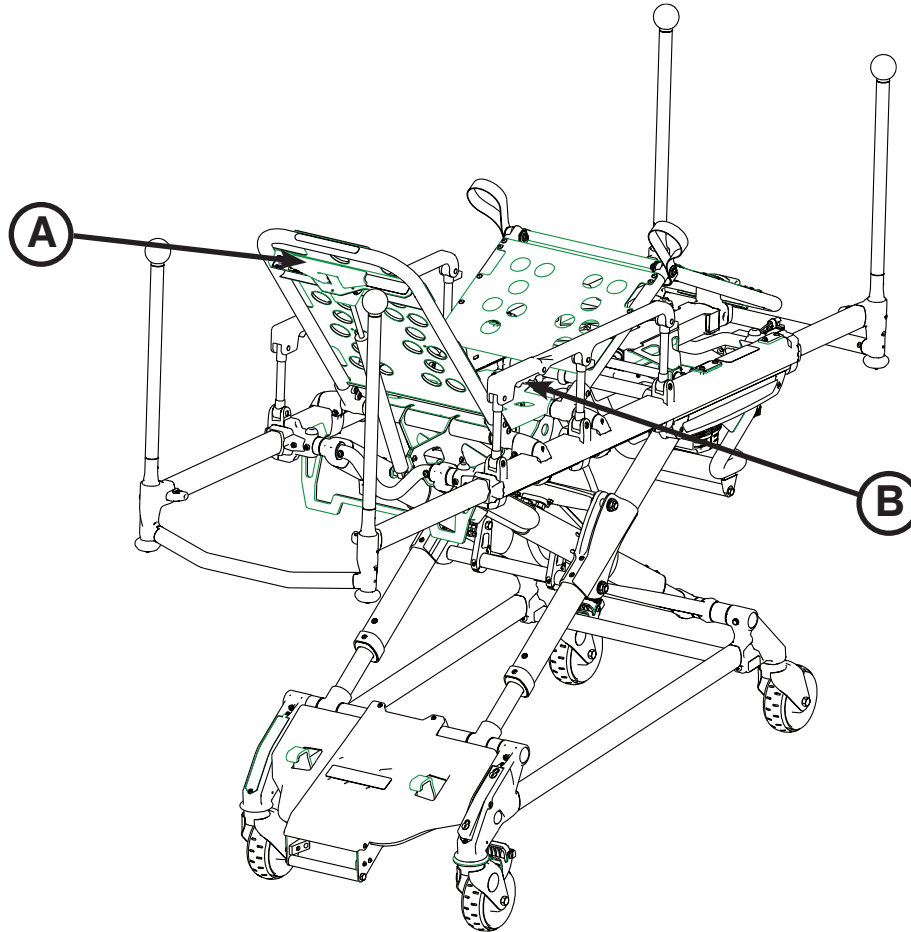

Figure 20
To **raise the backrest**, as shown in Figure 20, squeeze handle (A) to move the backrest to the desired height.
To **raise the siderails**, as shown in Figure 20, lift up on the siderail until the latch clicks and the siderail locks into place. When a patient is on the cot, always keep the siderails in the raised position unless the patient is being transferred.